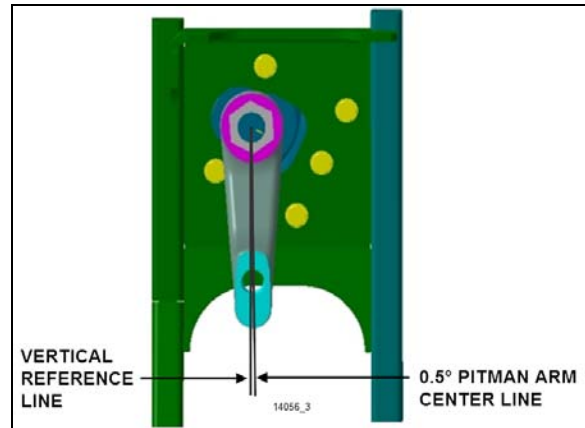

FIGURE 34: IFS PITMAN ARM ALIGNMENT
4. Check that the angular relationship of the pitman arm to the steering gear is as shown in Figure 34.